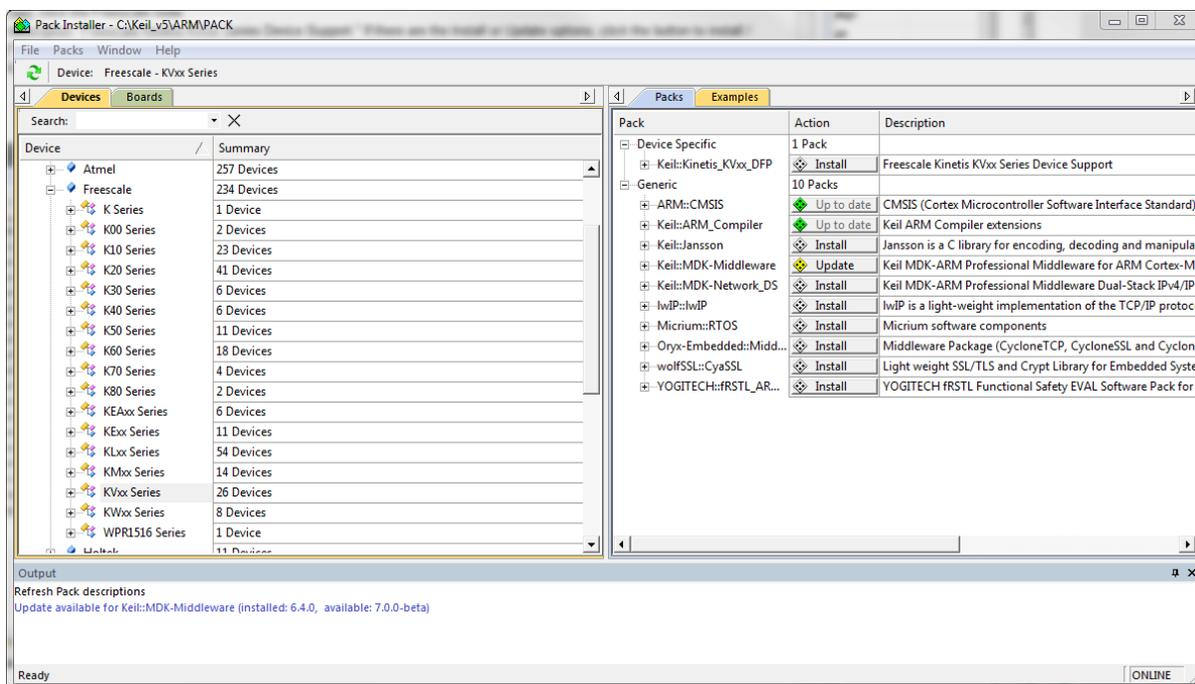

Figure 1-23. Pack Installer
6. Look for a node called "Keil::Kinetic_KVxx_DFP." If there are the Install or Update options, click the button to install/update the package. See Figure 1-23.